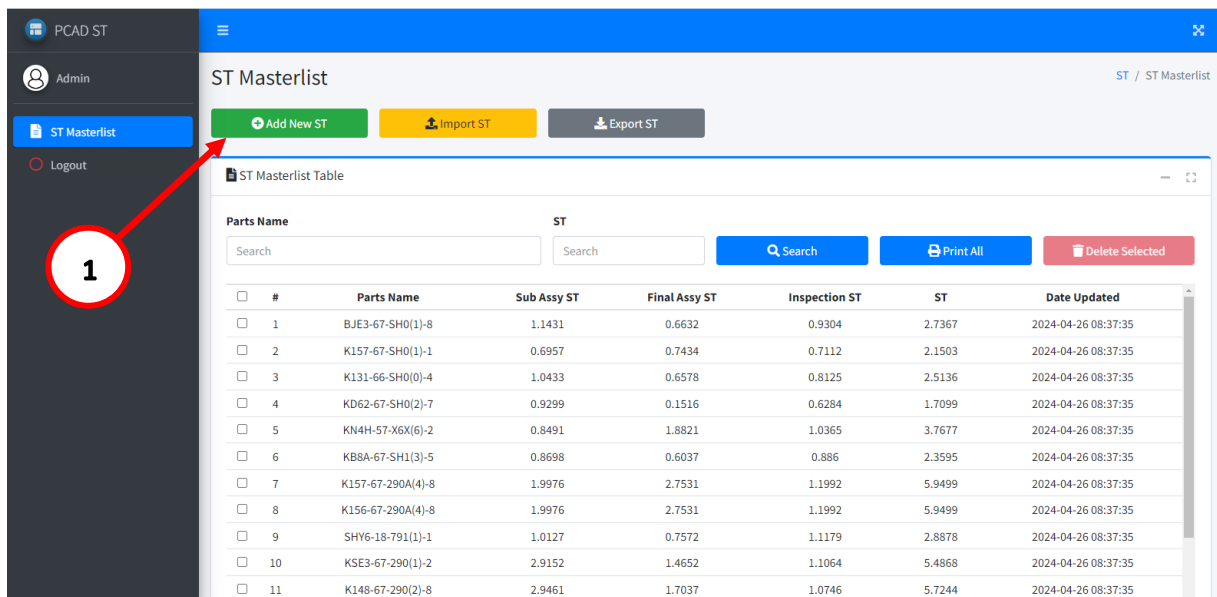

Figure 1.1
1. Click **Add New ST** Button. A form will appear. (See Figure 1.1).